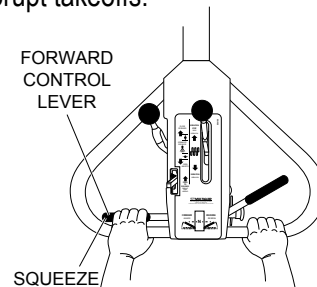

Figure 26. Forward Travel Lever
2. Squeeze the **left** travel lever (Figure 26) to move roller in a **forward direction**. Squeezing the lever all the way towards the operator will achieve maximum speed. Use a smooth squeezing action on the drive control lever to prevent abrupt takeoffs.